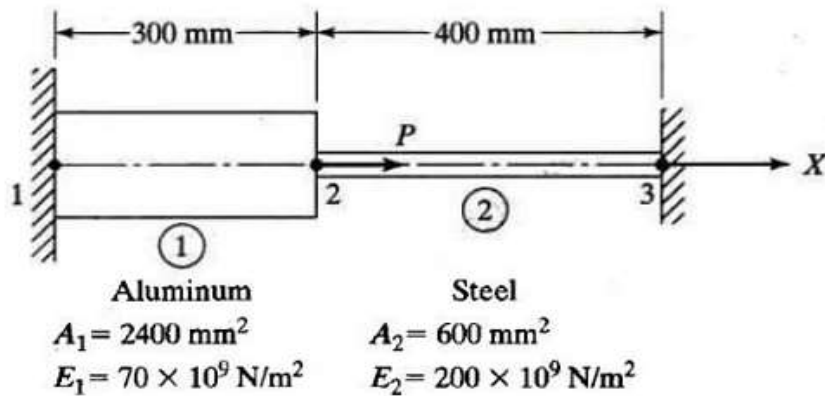

Fig: 1 {Que: 4 (c)}
- (c) Consider the bar shown in given Fig. 1 An axial load $P = 200 \times 10^3$ N is applied as shown. Determine the nodal displacements Using the penalty approach for handling boundary conditions **07**